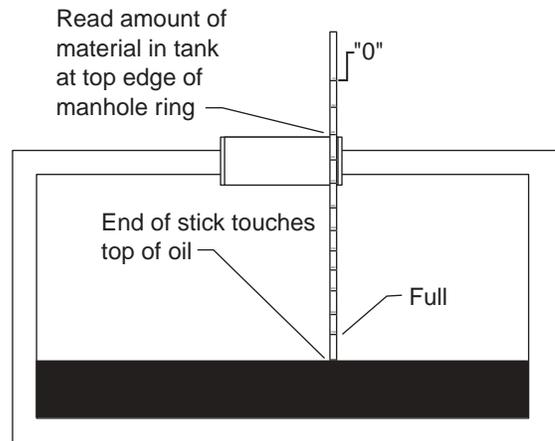

Figure 2. Using the Measuring Stick
11. Open the valve at the supply source and monitor the tank gage. When the gage indicates full, close the supply valve. (See Figure 2)
3. When the tank gage indicates full, close the supply valve. (See Figure 2)